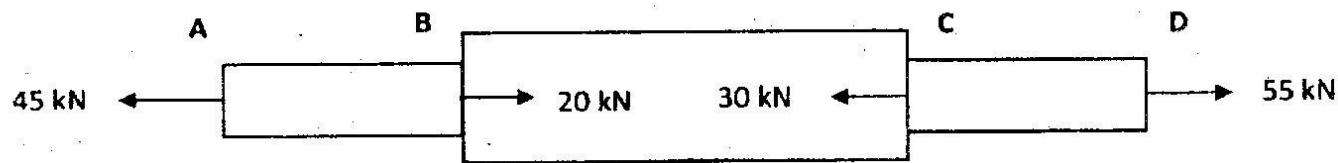

Fig. 1
- 1 (a) Find the axial deformation of the rod as shown in **fig. 1**. Take $E = 2.05 \times 10^5$ N/mm². Given $AB = CD = 1$ m and $BC = 1.2$ m. Diameters of portions AB and $CD = 30$ mm and diameter of portion $BC = 35$ mm.